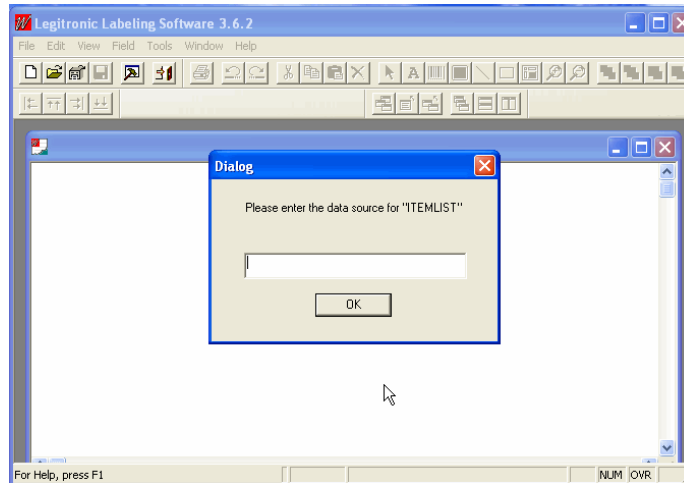

Figure 4-14
4.3.6. If your label is using a database, you will see the following: (Figure 4-14)